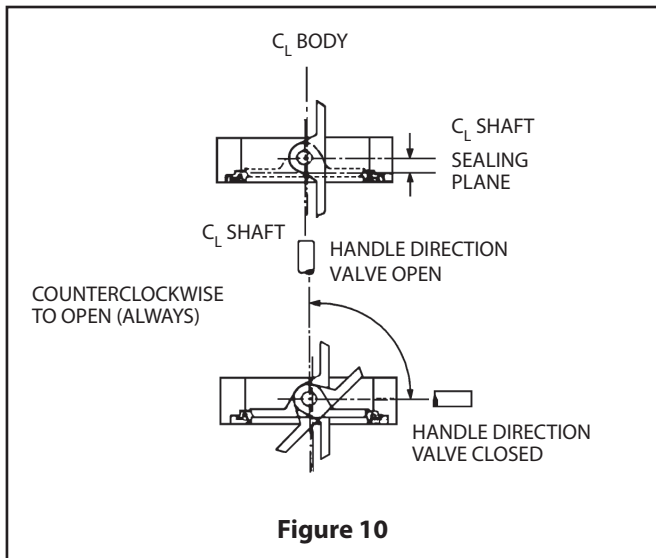

Figure 10
2. The valve may be installed in any position and offers tightness in both directions. It is recommended, however, that the valve be installed with the insert (2) facing upstream. Install the valve in the pipeline so the shaft is horizontal if possible. It is not recommended to install the valve with the stem on the underneath side because dirt in the pipeline may then enter the body cavity and potentially damage the stem packing.
4. Before installing the closed valve in the line, be sure that the handle or actuator is attached so that a counter-clockwise rotation, viewed from above, opens the valve (see **Figure 10**). Again, fully close the valve before installing it in the line.